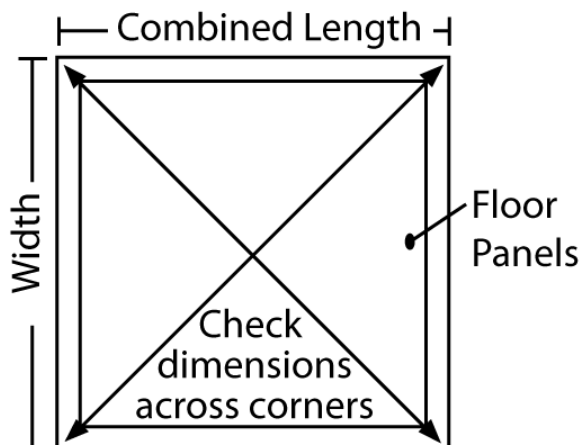
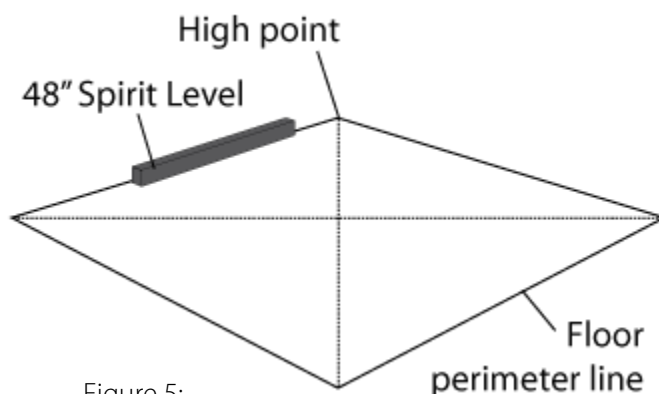

Figure 4:
Figure 5:
- Mark the outside perimeter of the Mortuary Cooler on the building floor. Check the marked area for squareness by measuring the distance across the corners as shown in *Figure 4*. Check floor for levelness. If floor is not level, the panels will need to be shimmed to maintain the height of the highest point of floor. Determine the highest point of floor using a 48" spirit level. If needed, establish a level string to help set vertical panels. See *Figure 5*.